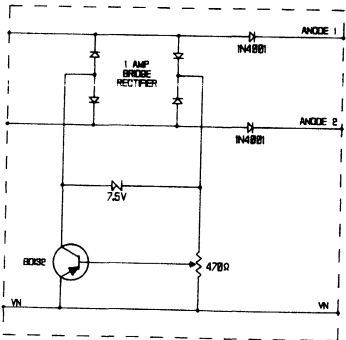

Fig.12 MANUAL BRIGHTNESS CONTROL
- 3. Manual brightness control Fig.12